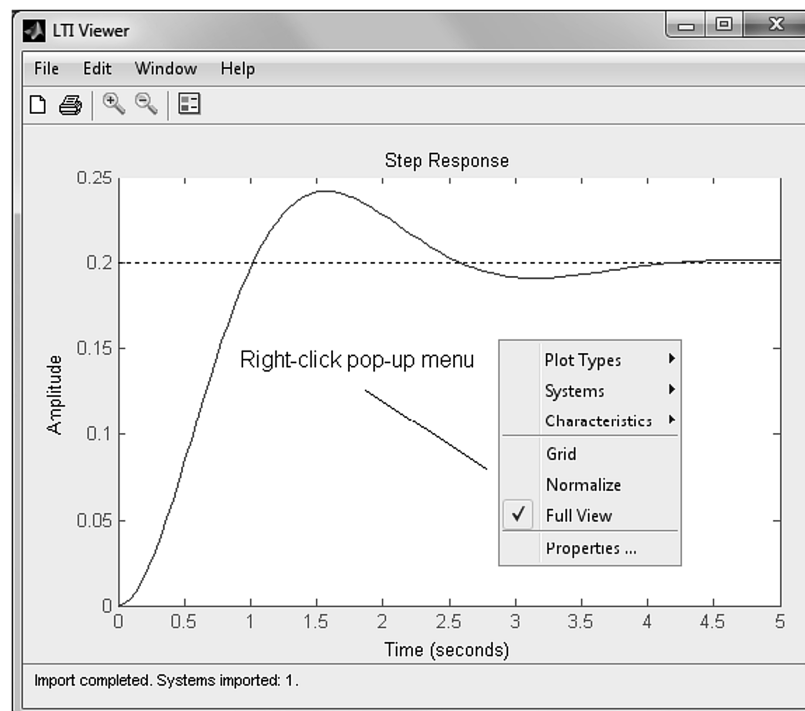

FIGURE E.1 LTI Viewer showing right click pop-up menu
- 1. Access the LTI Viewer** The LTI Viewer, shown in Figure E.1, may be accessed by typing `ltiview` in the **MATLAB Command Window** or by executing this command in an M-file.
- 4. Select the LTI objects for the next response plot** Right-click anywhere in the LTI Viewer plot area to produce a pop-up menu as shown in Figure E.1. Under **Systems**, select or deselect the objects whose plots you want or do not want to show in the LTI Viewer. More than one LTI transfer function may be selected.
- 5. Select the plot type** Right-click anywhere in the LTI Viewer plot area to produce a pop-up menu as shown in Figure E.1. Under **Plot Types**, select the type of plot you want to show in the LTI Viewer.
- 6. Select the characteristics** Right-click anywhere in the LTI Viewer plot area to produce a pop-up menu as shown in Figure E.1. Under **Characteristics**, select the characteristics